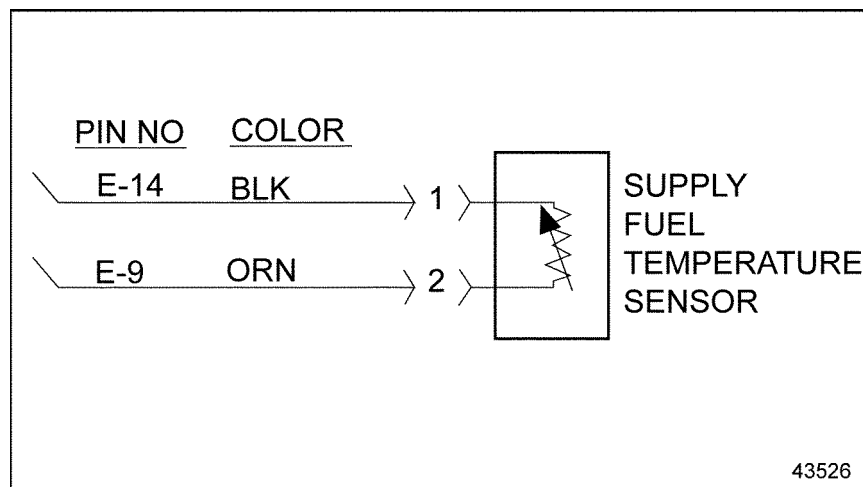

Figure 28-2 Supply Fuel Temperature Sensor
3. Install a jumper wire between sockets 1 and 2 of the FTS/SFT Sensor harness connector. see Figure 28-2.